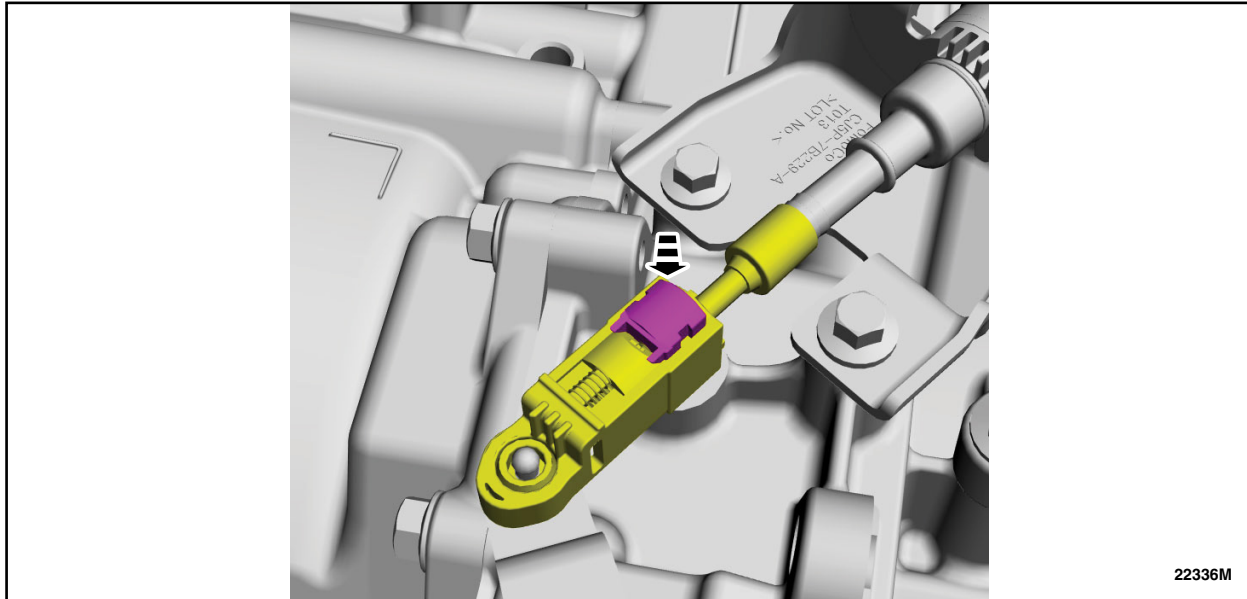

**FIGURE 11**
12. Connect the selector lever cable to the manual control lever. See Figure 11.